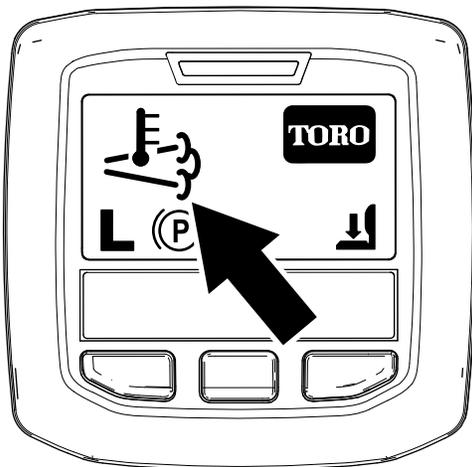

Figure 39
- The high exhaust-temperature icon  displays in the InfoCenter (Figure 39).